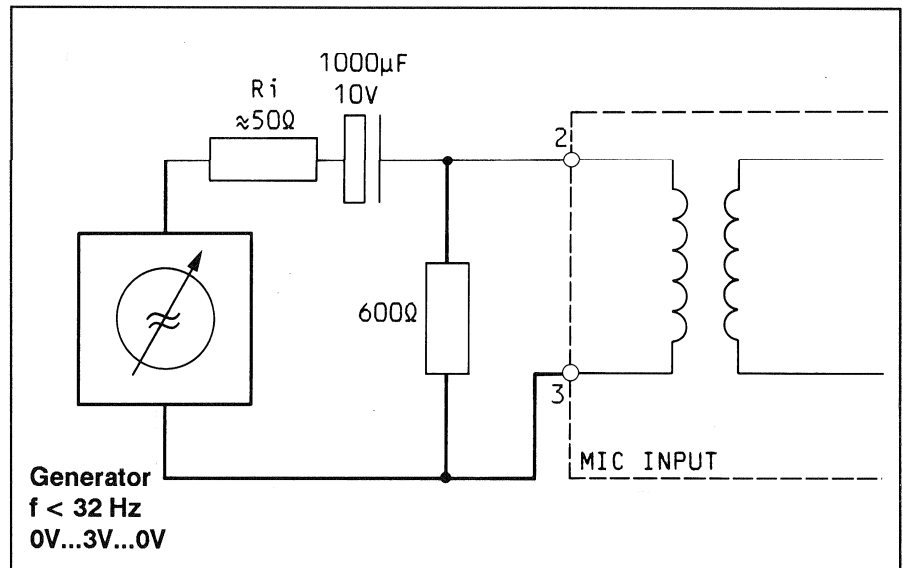

Fig. 1
- Connect audio generator to the microphone input as depicted in the diagram, fig.1.
(Refer to the circuit diagram, Fig. 1)